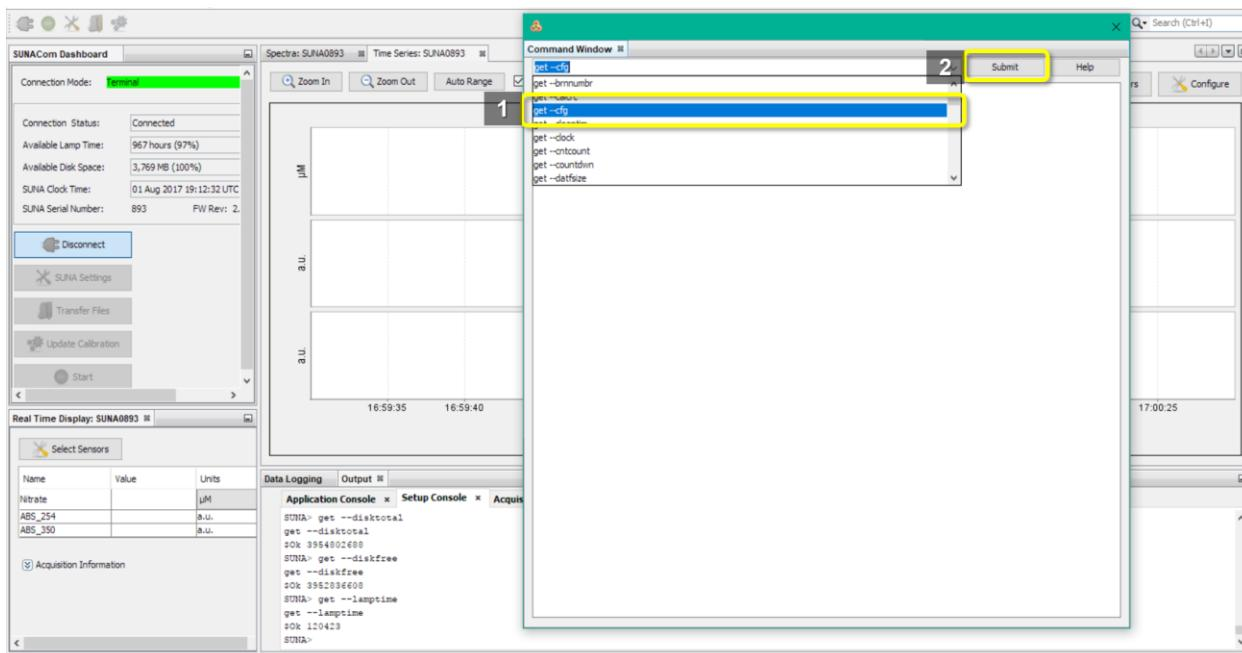

Figure 111. Command Terminal Window "get -- cfg"
- This opens a “Command Terminal” window. Select “get --cfg” and click “Submit”. This loads your SUNA configuration settings (see Figure 111).